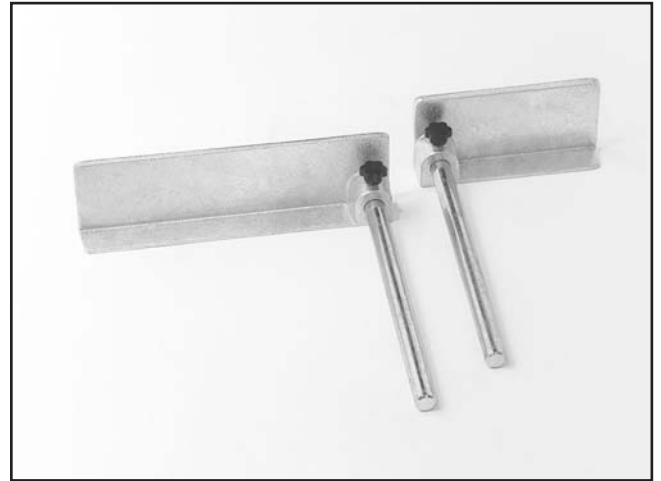

Figure 26. Fences assembled.
2. Insert the fence shafts into the fences and secure them in place with the knob screws (**Figure 26**).